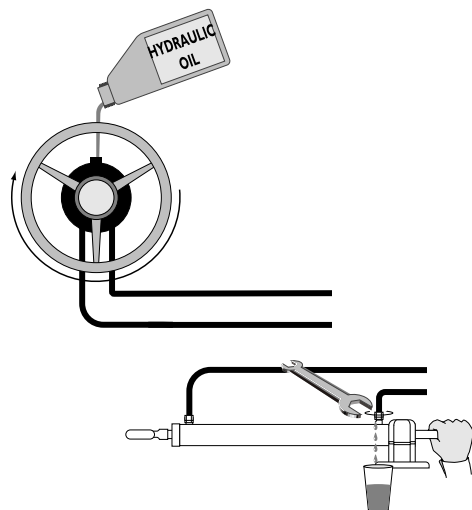

Fig 4.5 - Bleeding port hydraulic line
14. Holding the ram to stop it extending from the cylinder, turn the helm clockwise until a steady stream of oil comes out of the bleeder with no air bubbles (Fig 4.5). Drain at least ½ litre (1 pint) of oil to ensure all air is purged from the system. Retighten the bleed valve.